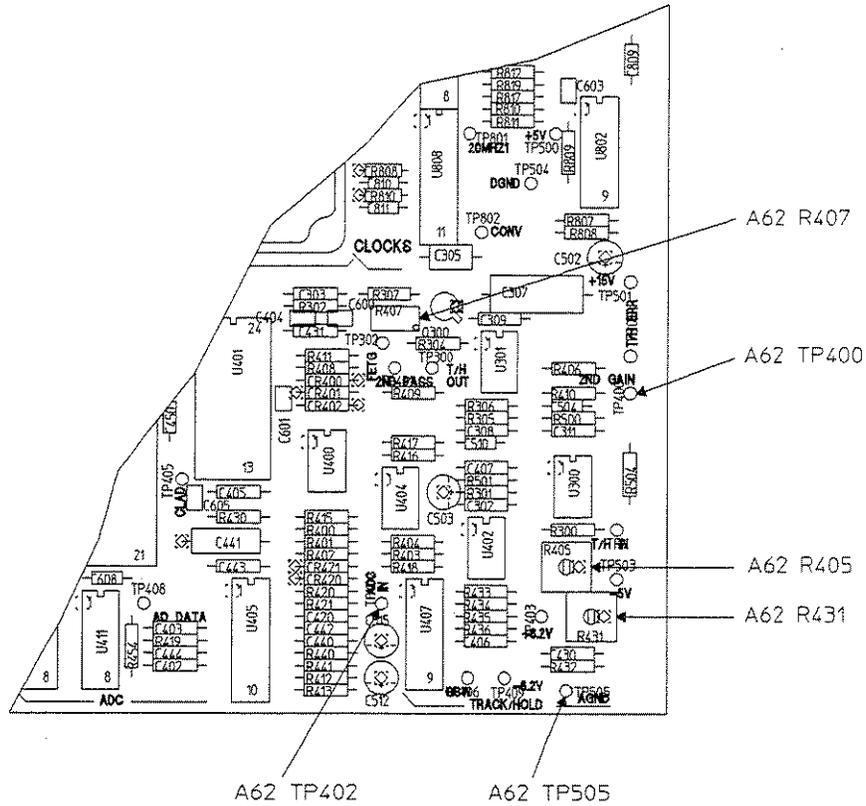

Figure 1-7. A 62 ADC/Digital Filter Component Locator
3. Connect the oscilloscope to A62 TP400 (see figure 1-7) using a capacitive load and a 1:1 oscilloscope probe. Connect the probe ground clip to TP 505 (AGND).